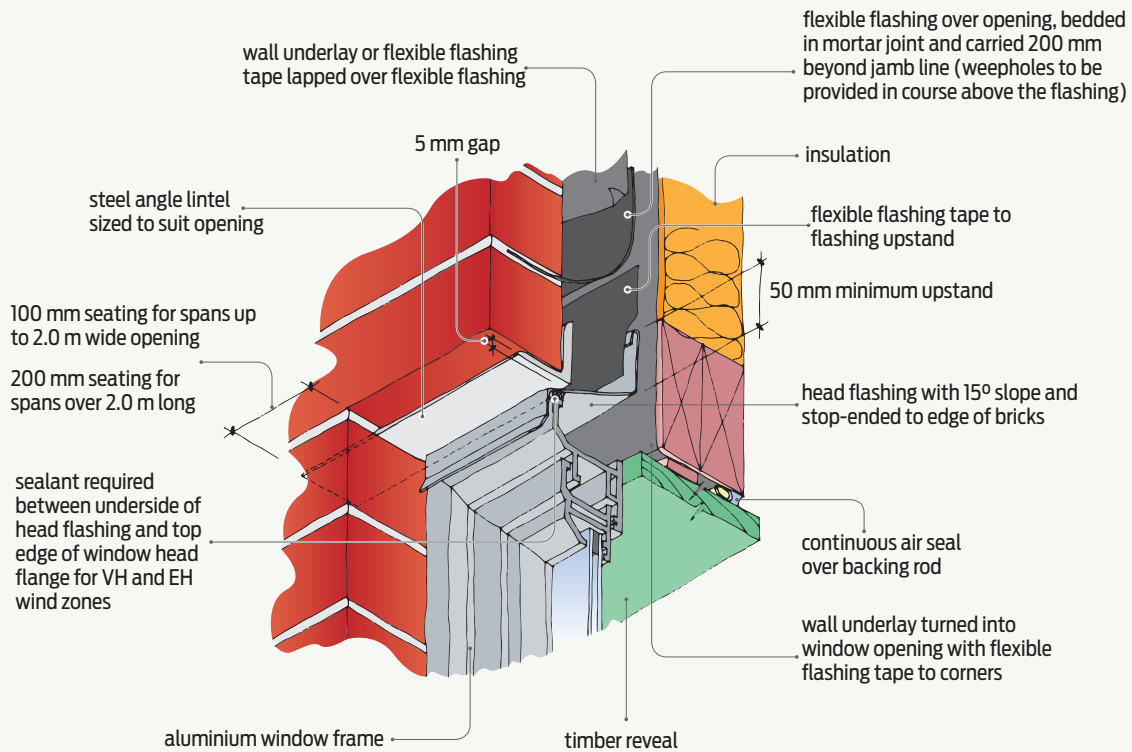

Figure 2 Aluminium window installation – head detail.
- Flexible head flashing across the opening, bedded into the mortar joint above the opening and extended 200 mm beyond the jamb line on both sides. A layer of wall underlay or flexible flashing tape must be lapped over the flexible flashing (see Figures 2 and 3).
For very high (VH) and extra high (EH) wind zones, sealant must be applied between the underside of the head flashing and the top edge of the window head flange (see Figure 2).